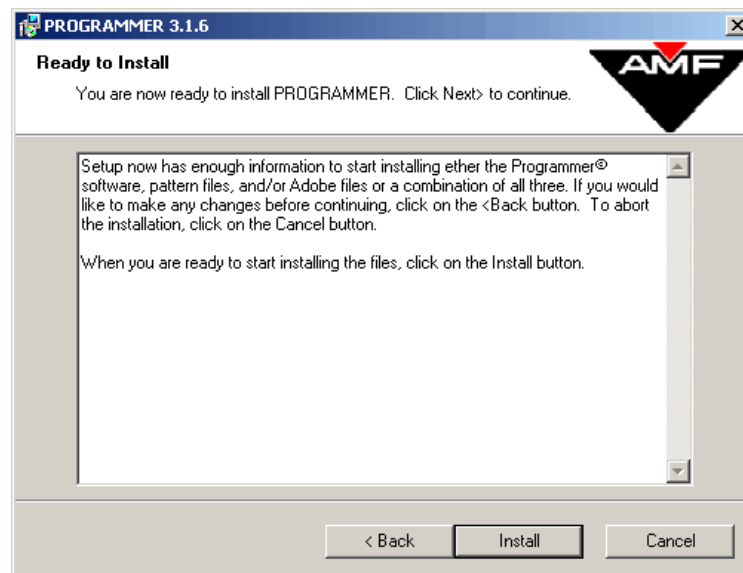

Figure 1-17
16. The computer now has enough information to complete the installation process. Click on the <Install> button as shown in **Figure 1-17** to finish the installation.